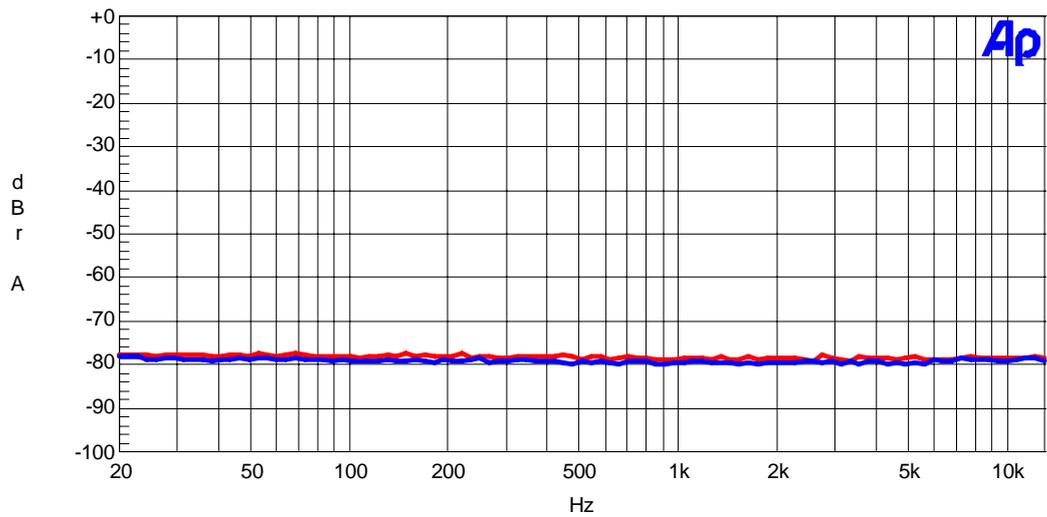

Figure. 10 Stereo mode THD + N vs. Input Frequency (-15dB)
- Figure. 10 : THD+N vs. Input Frequency (-15dB)